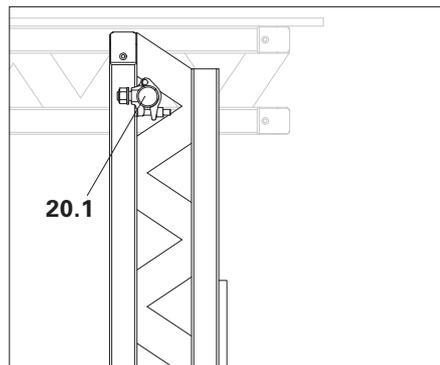

Fig. A4.02.1
1. Position pre-assembled element (20) on the SKYTABLE table and, with the scaffold tube  $\varnothing$  48 mm (20.1), install through the GT 24 spacings. (Fig. A4.02.1)